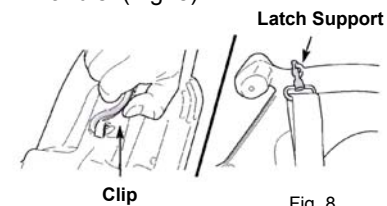

Fig. 8
4. Attach the metal clip of the shoulder strap to the latch support on top of the handle. (Fig. 8)